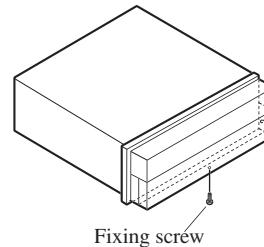

Fig. 20
- Fix the front panel to the unit using fixing screws after removing the front panel. (Fig. 20)